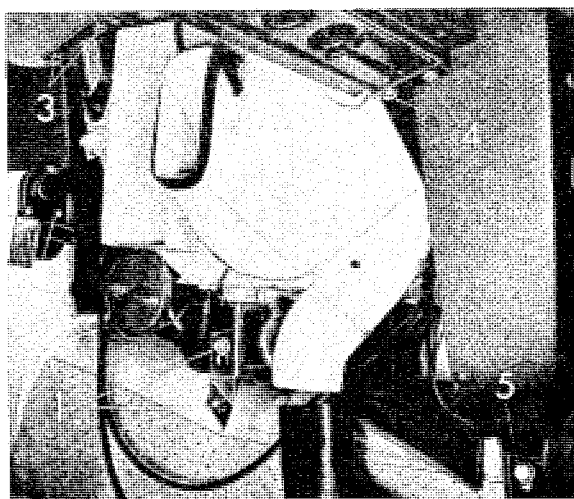

Fig. 8-68. Central unit, left-hand side
3. Unscrew the screws (4 and 5, Fig. 8-68) for the control plate support legs on both sides, and move the plate as far back on the transmission tunnel as the electric cables permit.
9. Remove the upper and lower screws for the left support leg, and the screws for the upper and lower brackets, from the fire wall and transmission tunnel (Fig. 8-68).